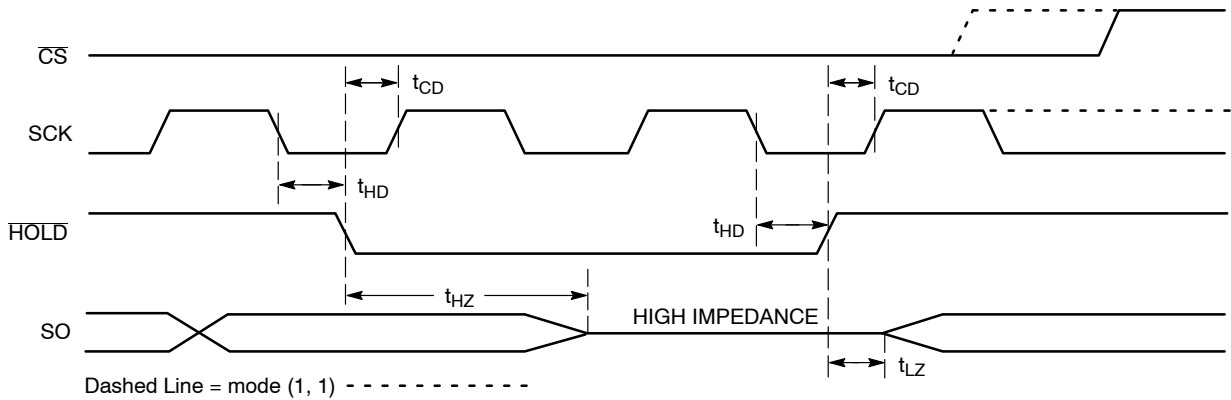

Figure 11. HOLD Timing
The $\overline{\text{HOLD}}$ input can be used to pause communication between host and CAV25512. To pause, $\overline{\text{HOLD}}$ must be taken low while SCK is low (Figure 11). During the hold condition the device must remain selected ($\overline{\text{CS}}$ low). During the pause, the data output pin (SO) is tri-stated (high impedance) and SI transitions are ignored. To resume communication, $\overline{\text{HOLD}}$ must be taken high while SCK is low.